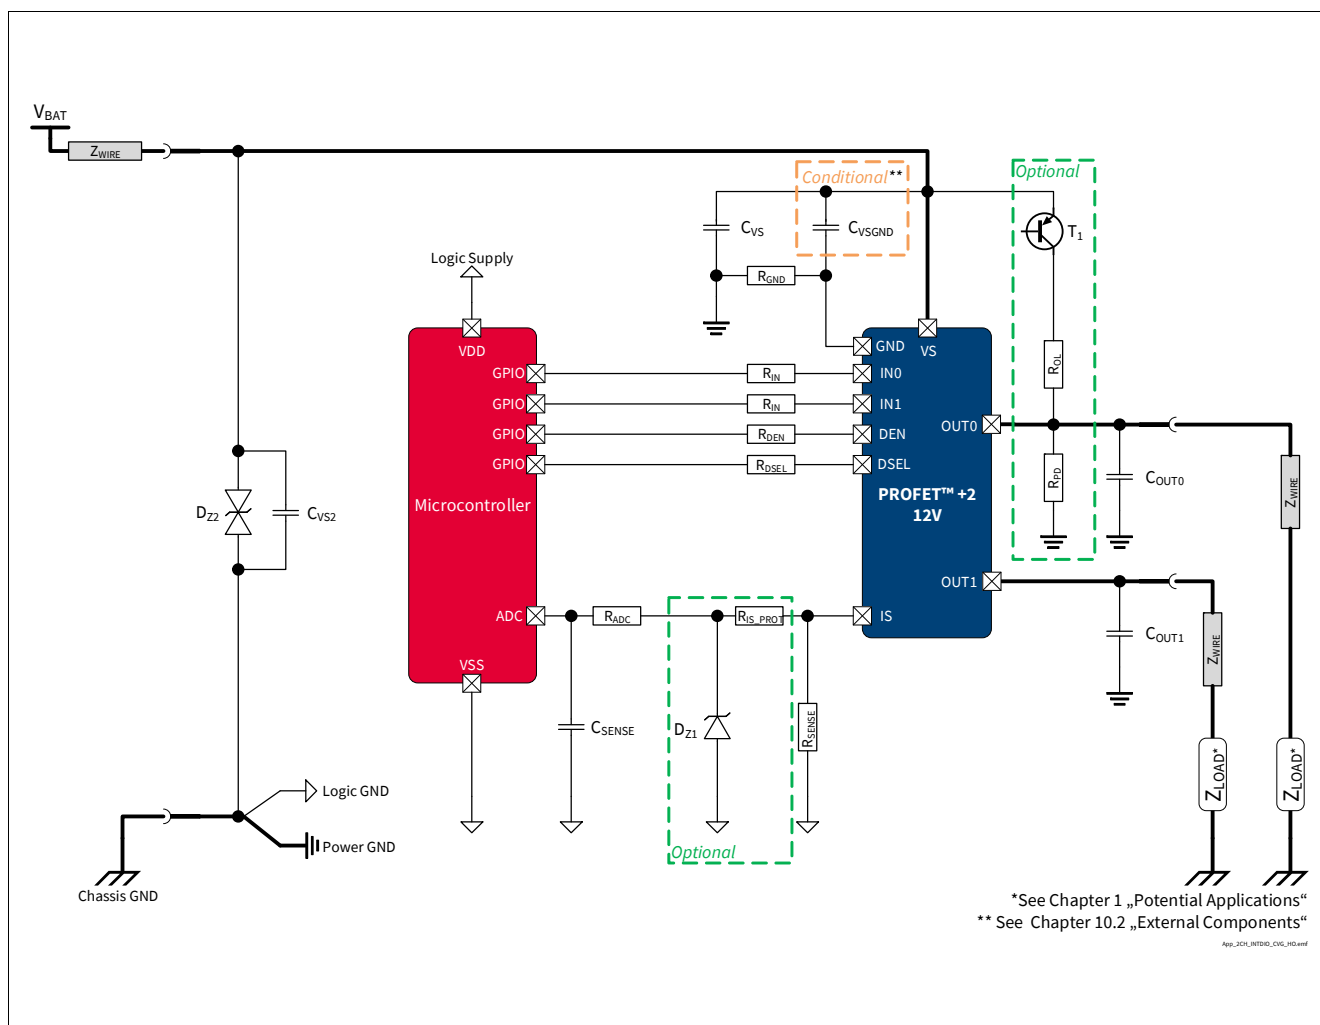

Figure 42 BTS7200-2EPA Application Diagram
1.03 , 2019-10-15	P_8.7.9.1, P_8.7.9.7, P_8.7.9.8 updated (added in Note or Test Condition: link to Figure 25) P_7.5.9.4, P_7.5.9.5 updated (added in Note or Test Condition: DEN = “low”; link to Figure 19) P_7.5.9.12 updated (added in Note or Test Condition: See Figure 21; deleted unnecessary space in Symbol: $dV_{OUT} / dt \rightarrow dV_{OUT} / dt$) P_8.7.9.6 updated (added in Note or Test Condition: see Figure 26) P_9.7.9.1 updated (added in Note or Test Condition: See Figure 33) P_9.7.9.5 updated (Min./Typ./Max.: -45%/670/+45% → -25.0%/665/+25.0%) P_9.7.9.6 updated (Min./Typ./Max.: -36%/670/+36% → -24.0%/665/+24.0%) P_9.7.9.8 updated (Min./Typ./Max.: -30%/670/+30% → -22.5%/665/+22.5%) P_9.7.9.12 updated (Min./Typ./Max.: -14%/670/+14% → -11.0%/665/+11.0%) P_9.7.9.13 updated (Min./Typ./Max.: -11%/670/+11% → -8.5%/665/+8.5%) P_9.7.9.15 updated (Min./Max.: -6%/+6% → -6.0%/+6.0%) P_9.7.9.17 updated (Min./Max.: -5%/+5% → -5.0%/+5.0%) P_7.5.9.11 updated (added in Note or Test Condition: See Figure 19) Figure 1, Figure 42 updated Chapter 1 updated (or LED equivalent → or equivalent electronic loads (e.g. LED modules)) P_4.3.0.7 added Table 24 updated Chapter 5.1 updated (added: see Chapter 10 for the complete application setup overview)